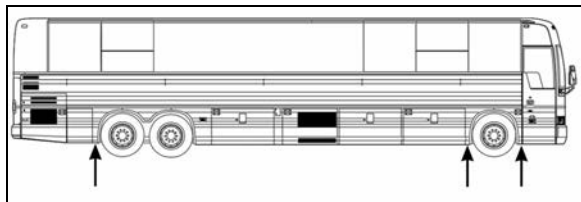

FIGURE 5: JACKING POINTS ON FRAME 11020
- FIGURE 5: JACKING POINTS ON FRAME 4
1. Raise vehicle by its jacking points on the body (fig. 5 or see Section 18, "Body" under heading "Vehicle Jacking Points"). Place jack stands under frame. Remove drive axle wheels (if required, refer to Section 13, "Wheels, Hubs And Tires".